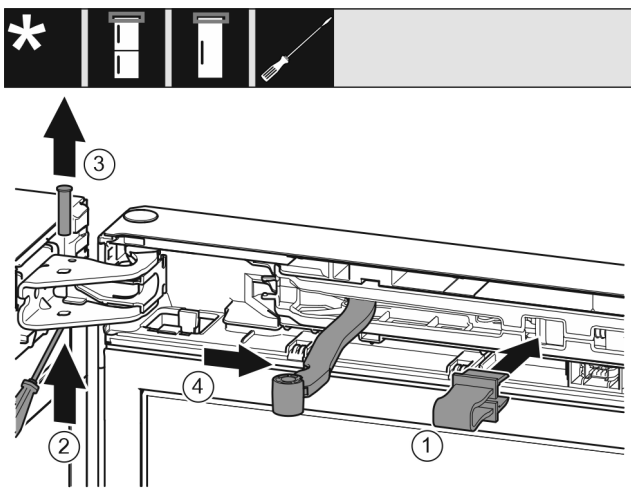

Fig. 5
- Engage the locking device in the opening. Fig. 5 (1)
- Unscrew the bolt with a screwdriver. Fig. 5 (2)
- Remove the bolt upwards. Fig. 5 (3)
- Turn the hinge in the direction of the door. Fig. 5 (4)